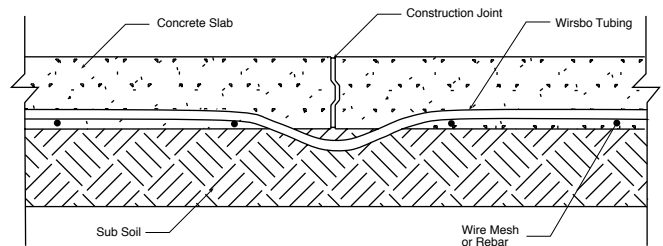

Figure 4-5
**Avoiding the Construction Joint** — To avoid the construction joint during installation, dip the tubing below the slab into the subsoil (see **Figure 4-5**).